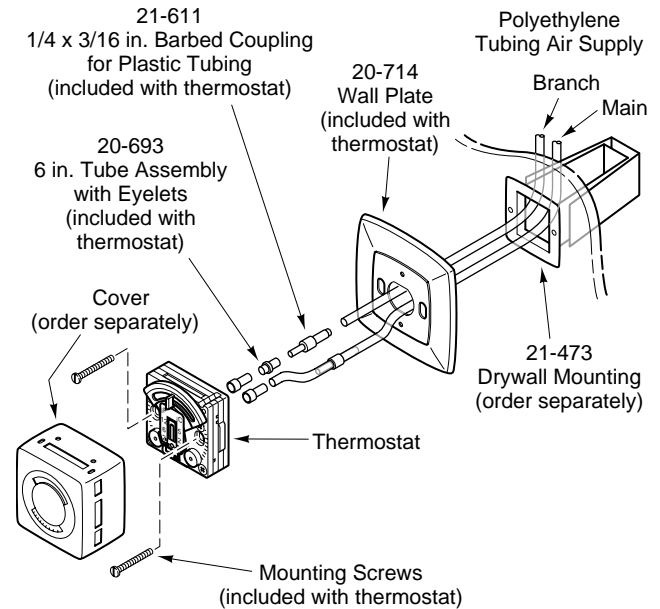
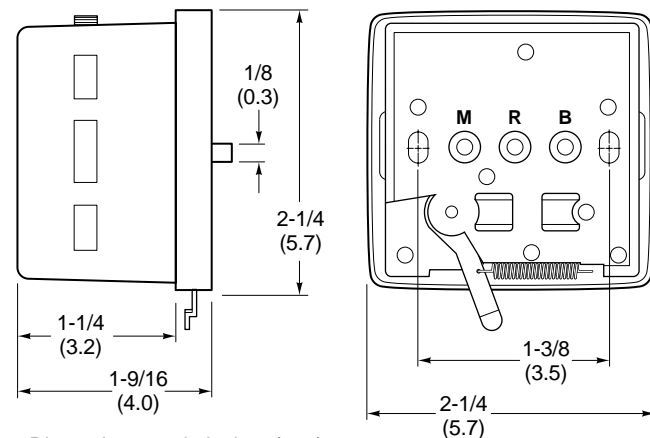

Figure-2 Flush Mounting of Thermostat,
Figure-10 Mounting Dimensions.
- Mount the thermostat according to the applicable figure (Figure-2 through Figure-8). See Figure-10 for mounting dimensions.